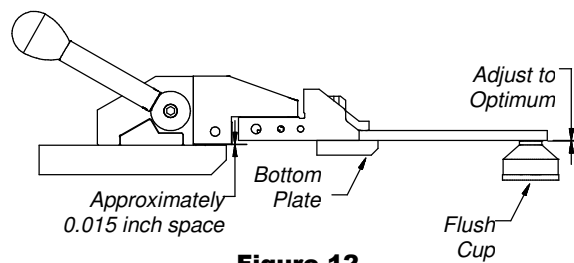

Figure 12
STEP 21. After the truing is completed remove the vertical vise/TD01 with work piece and place it onto the MCD01 in the machine as shown in Fig. 12.